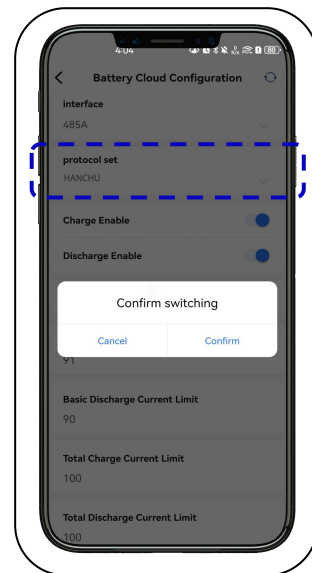

Figure 44
- Click "Confirm" to complete the setting, as shown in Fig 44. And more smart functions are waiting for you to discover.